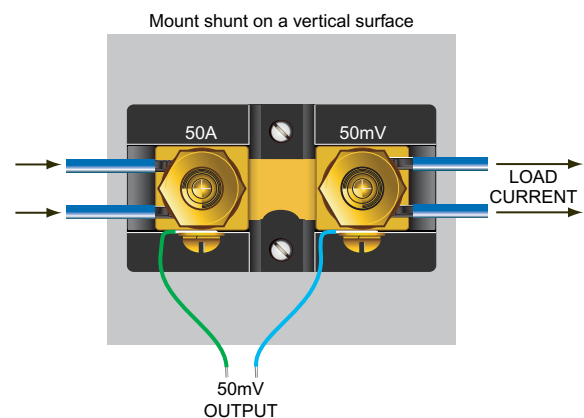

Figure 1. Typical installation
**2. Mounting Considerations:** All shunts should be mounted with their resistance blades in a vertical position to allow for natural convection cooling (see Figure 1). Forced-air cooling must be provided when vertical mounting is impractical, or in installations where the shunt is installed in a confined location. The shunt's manganin blades must never be allowed to exceed  $+125^\circ\text{C}$ ; doing so will cause permanent damage to the shunt.
Whenever practical, all shunts should be connected in the grounded side (normally the 'chassis') of the dc supply. However, these shunts must be connected in the grounded side of the circuit when the dc supply exceeds 750 volts (the rated limit for the shunt's phenolic insulating base). When more than one wire is to be connected to each end of a shunt, the wires must be evenly distributed between both terminals (see Figure 1).